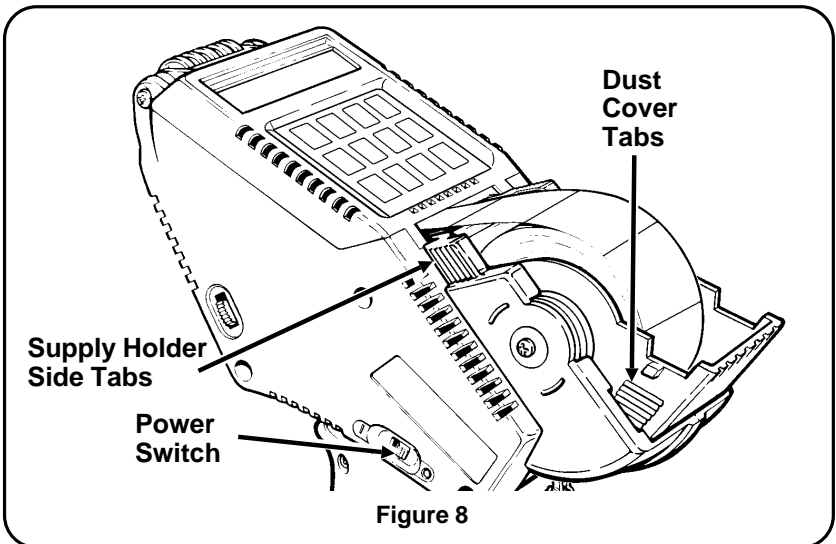

Figure 8
2. Squeeze the tabs (Figure 8) on the dust cover and rotate it open until it locks.